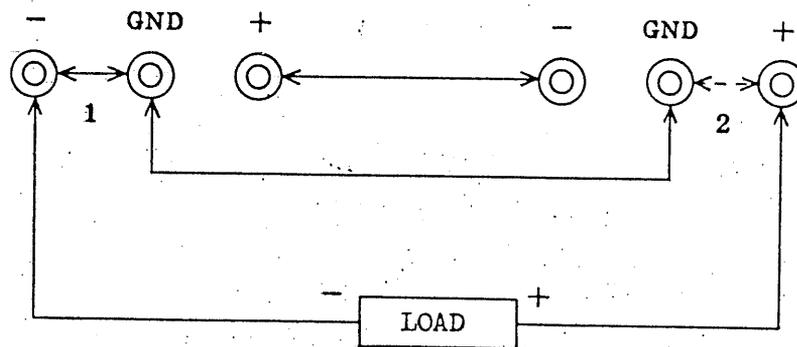

Fig. 4
- 1) For "-" grounded: As indicated with solid line in Fig. 4.
- 2) For "+" grounded: As indicated with broken line in Fig. 4.